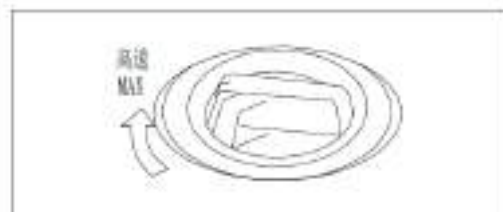

Figure 4-23 High speed position on fuel control knob
c) Turn the fuel control knob to the high-speed (MAX) position, as shown in Figure 4-23 and perform a 3-5 minute check to see whether all gauges and instruments are in normal states.
Turn the fuel control knob to high-speed position to increase engine speed, as shown in Figure 4-23.